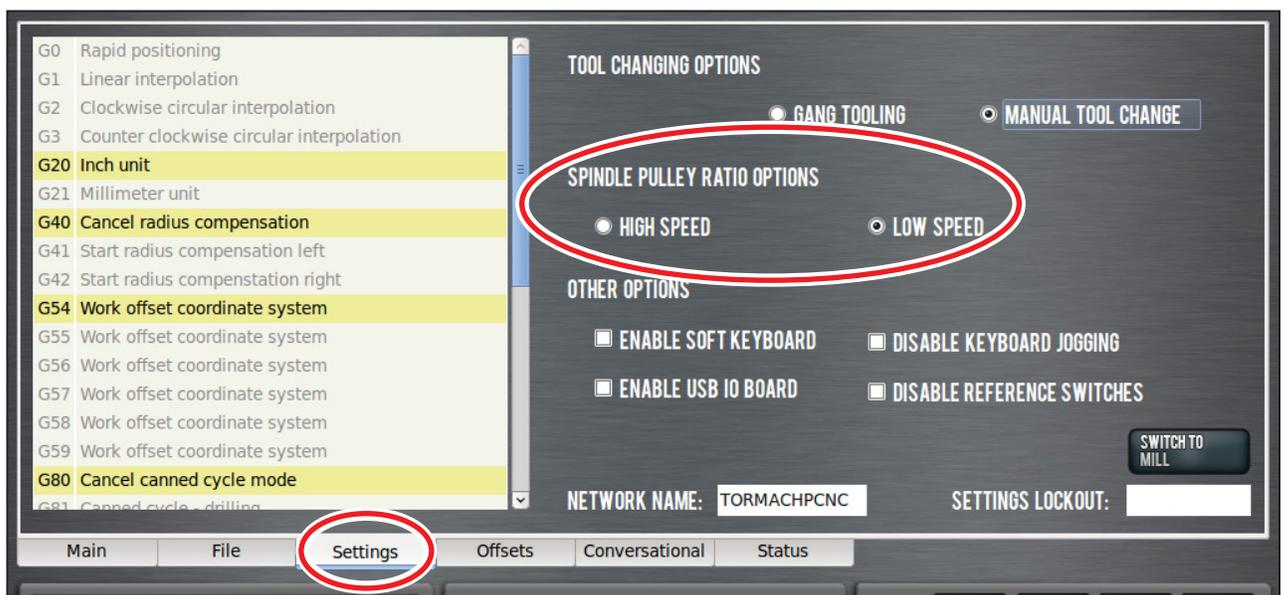

Figure 3.4
3. On *Settings* screen, select correct spindle belt position from *Spindle Pulley Ratio Options*: either *High Speed* or *Low Speed* (see **Figure 3.4**). For more information, refer to *Changing Spindle Speed Range* section later in this chapter.